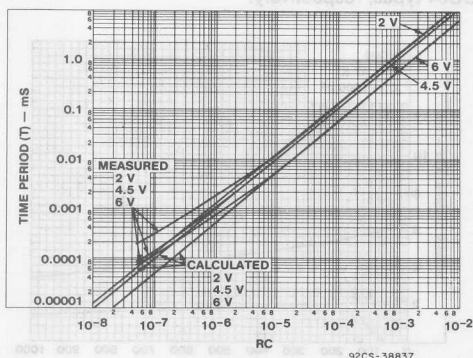
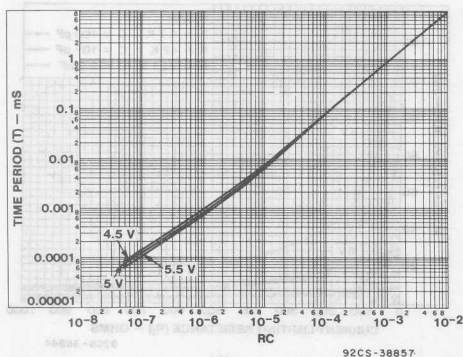

Fig. 12 - Measured and calculated time period of oscillating HC132 as a function of time constant RC .
Fig. 13 - Measured time period of oscillating HCT132 as a function of time constant RC .
Fig. 12 plots measured T versus RC for the HC132. Also plotted in Fig. 12 are calculated values of T versus RC using equation (7). Fig. 13 is a plot of measured T versus RC for the HCT132. Figs. 14(a) and 14(b) show measured power dissipation as a function of time-constant RC in oscillators employing the HC132 and HCT132, respectively.